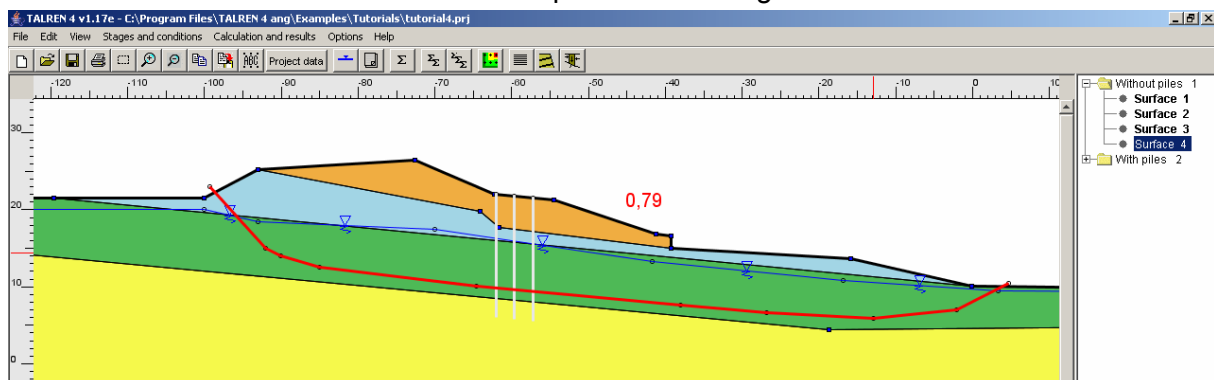

Figure 94: default output for situation 4 of stage 1
- Calculate situation 4. The result is presented on Figure 94.